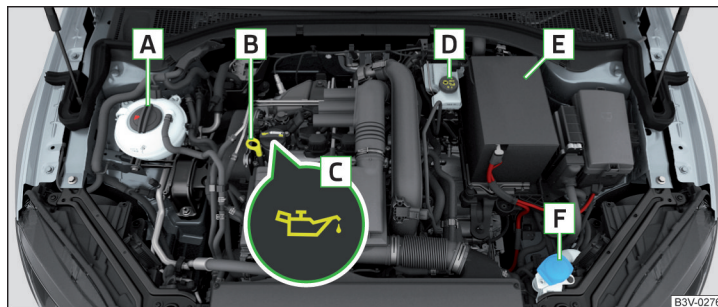

Fig. 217 Arrangement example in the engine compartment
- Unscrew the cap of the engine oil filler opening **C** » Fig. 217 on page 184.